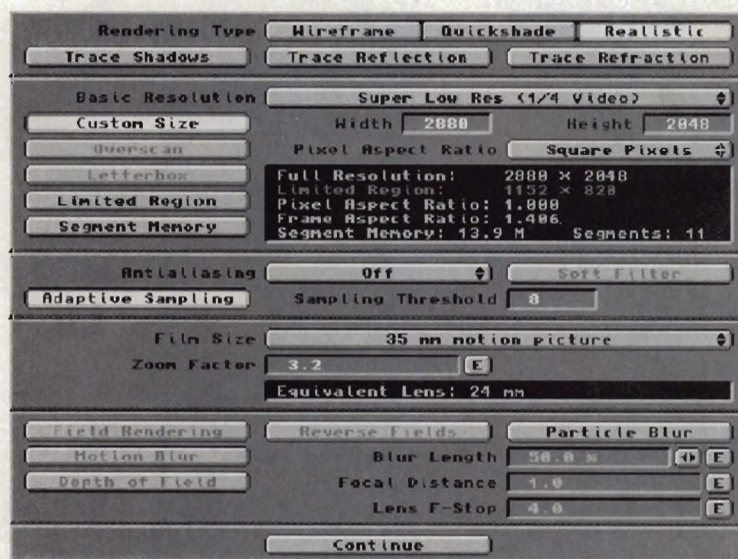

Figure 1
**A:** LightWave's Custom Size setting is totally independent of the Basic Resolution, with two exceptions (which I will get to in a moment). When you choose Custom Size (Camera panel, Figure 1), you can set your Basic Resolution to any of the five presets—it doesn't matter which. LightWave only pays attention to the Custom Size Width and Height values that you input. LightWave doesn't "uprez" the image or shrink it to fit into any other size; it simply renders it out in the width and height that you choose.